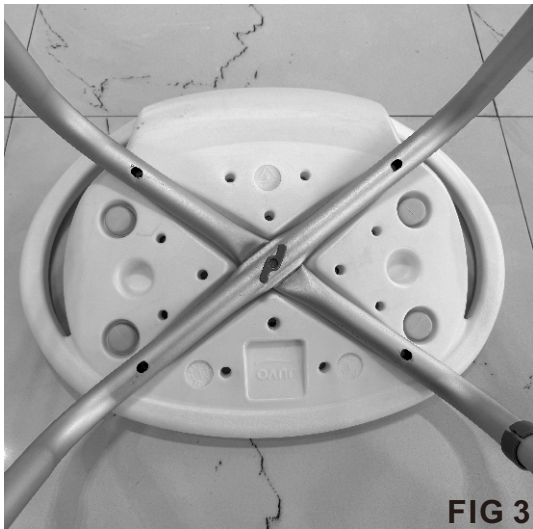

FIG 3
- Lay U-Shaped Leg Brace #2 on top of, across U-Shaped Leg Brace #1, in recessed channel marked #2. (Refer to FIG 3)